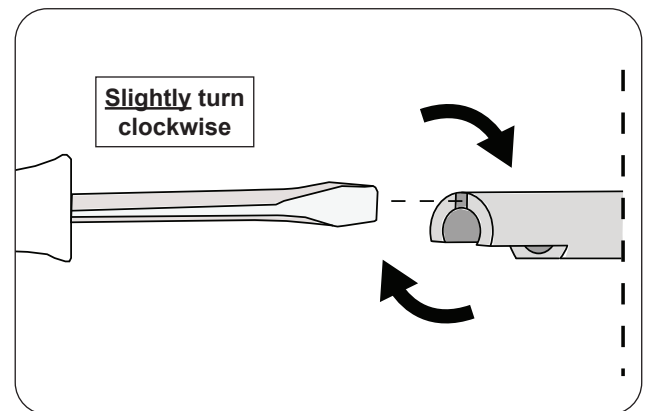

Fig. 51-2 Stem adjustment
2. Insert a flathead screwdriver into the split portion of the stem and GENTLY turn the screwdriver clockwise. Be cautious! Only a slight turn is needed as the stem is flexible. See Fig. 51-2.